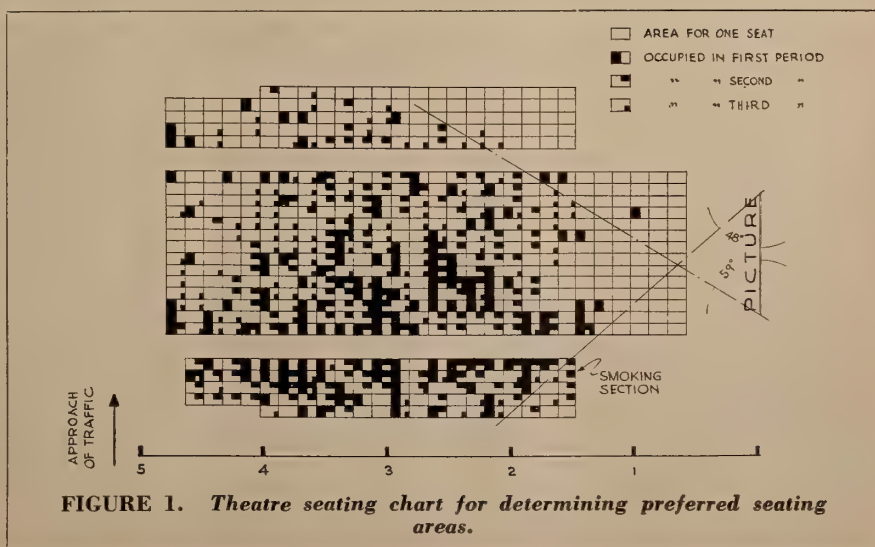

FIGURE 1. Theatre seating chart for determining preferred seating areas.
An actual survey was made in the Surrey Theatre in N. Y. City. The tests were made starting at 6:45 P. M. and ending at 9 P. M. The theatre has a capacity of 570 chairs, and in the hours indicated 453 people entered the theatre to view the screen performances. The accompanying diagram indicates the plan of the theatre, the position of the screen, and the like. The results of this survey are herewith given (Fig. 1) and the Committee may continue with a series of these surveys unless it is found that other more practicable methods can be used to arrive at the necessary results.
Figure 1 shows the seating diagram of the theatre and black boxes of various sizes indicate in which period the chairs were occupied. Fig. 1 also shows the different weights given to the black markings in accordance with the period when the occupancy occurred. Greater weight was given to the earlier periods so that a visual picture could be obtained of the preferred seating locations. It also assumed, of course, that the chair locations occupied in the earliest period would indicate the highest preference.
- (2) That the preferred viewing distances from the picture are found in an area located at distances beginning at approximately twice the picture width and ending at approximately four times the picture width. Fig. 1 is marked with a scale at the bottom to show the relation of viewing distances to the picture width. Each unit marked on the scale is equal to the picture width.
- (3) That seats located in an area too far to one side of the picture, or such as may be located outside an angle of approximately 60° in relation to the picture surface as shown on the chart, are not occupied any sooner than the two seats heretofore mentioned in the front sections, when other seats are available.